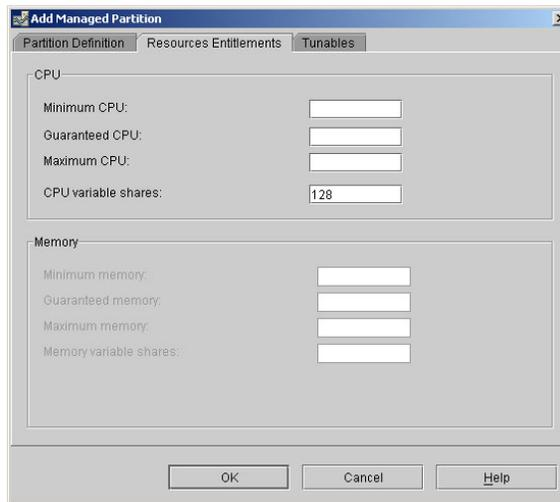

Figure 6-13 PLM wizard partition resource entitlement window
- Specify the CPU resource policy for this partition by clicking the **Resource Entitlements** tab of the Add Managed Partition window. This brings up the window shown in Figure 6-13. The default values for the minimum, guaranteed, and maximum entitlements are taken from the minimum, desired, and maximum values of the HMC partition definition. The default value for the CPU variable shares is one.